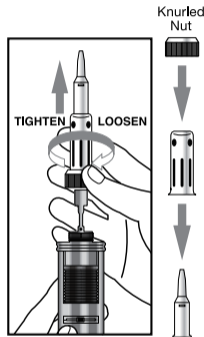

Fig.7
2. Unscrew Tip Assembly with a counterclockwise motion. (Fig. 7) Pliers may be required to lightly grasp the **Knurled Nut** in order to loosen the tip.